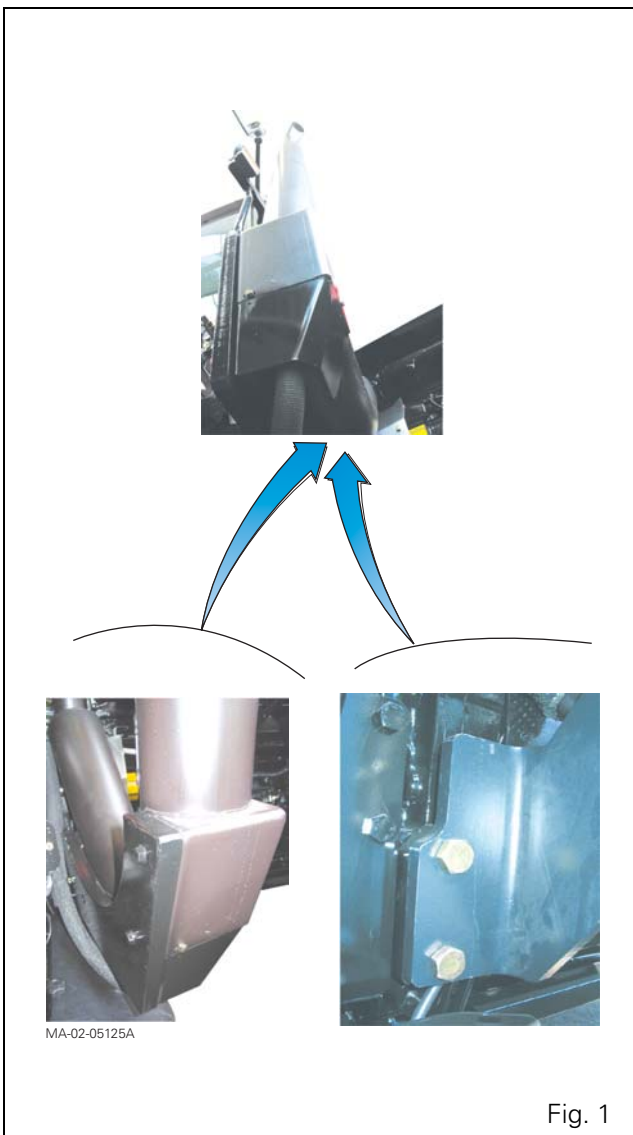

Fig. 1
- the vertical exhaust assembly (including support) (Fig. 1);